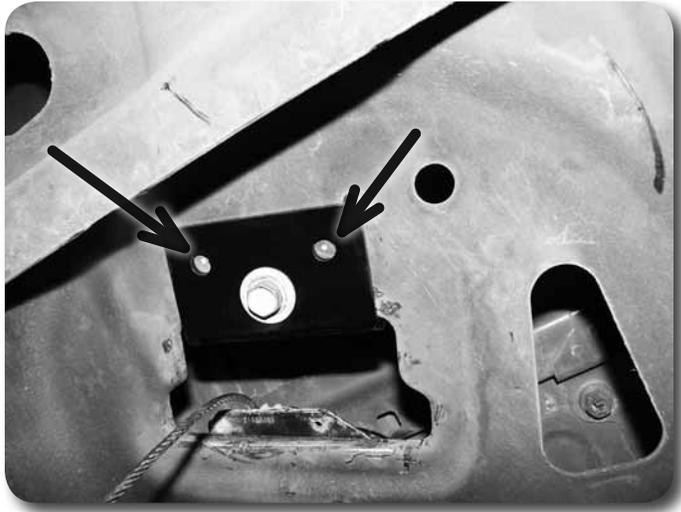

Figure 33
81. Loosely install “C” shaped relocation bracket with the factory mounting bolt, mark 2 additional holes to be drilled: Drill to 3/8” **Figure 33**